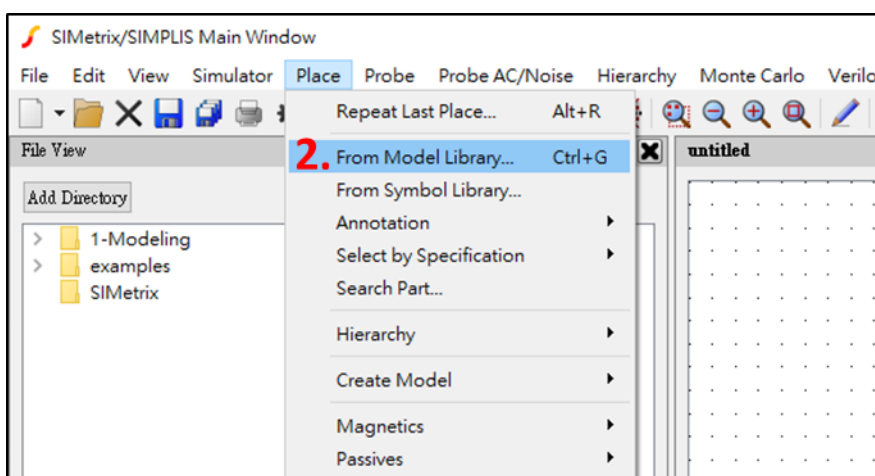

Figure 4
2. Click **Place** -> **From Model Library** (as shown in Figure 4)